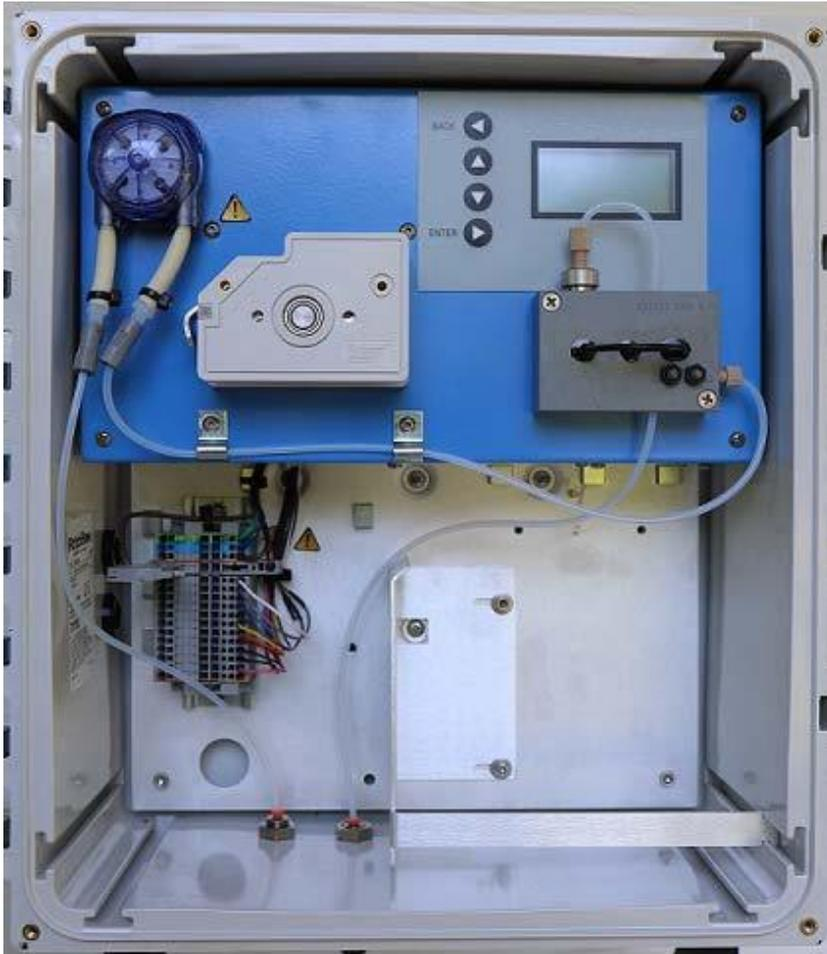

Figure 8.1 Positioning of Sample Pump Tube in Sample Pump
2. Remove the cover of the Sample Pump. Disconnect the sample inlet and waste lines at the barb fittings. Retain the barb fittings for transfer to the new Sample Pump tube. See Figure 8.1 for installation of the new Sample Pump tube.